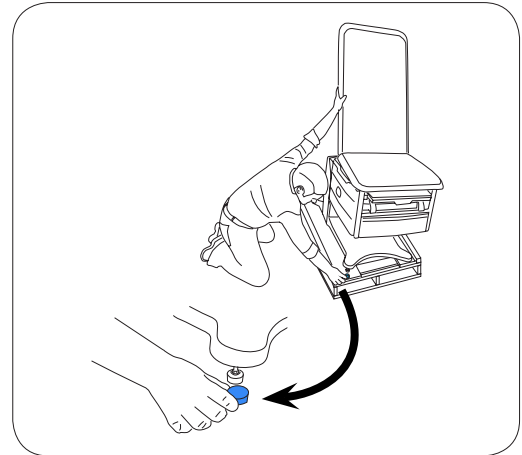

Figure 13. Installing Leveler Slides
13. Tilt table slightly to place the (4) slides under levelers (Figure 13).
Remove the (4) slides under the levelers (Figure 13).